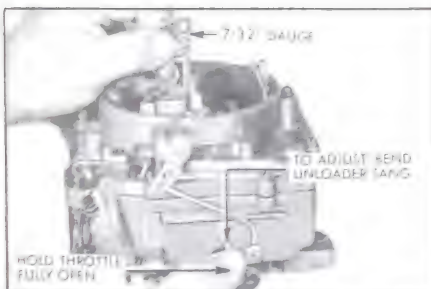

Figure 3-87—Unloader Adjustment
5. **Adjust Unloader.** Hold throttle wide open and check clearance between upper edge of choke valve and inner wall of air horn using the 7/32" gauge or a 7/32" drill. Bend unloader tang on throttle shaft lever as required to obtain this clearance using pliers. See Figure 3-87.